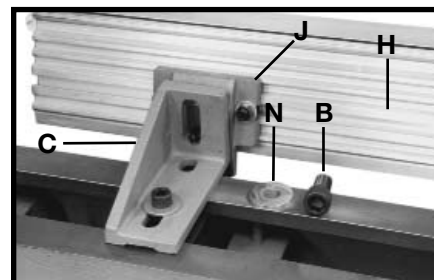
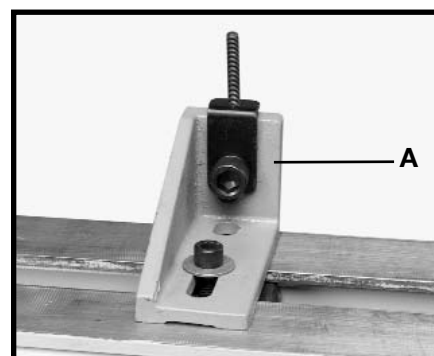

Fig. 25
Fig. 27B
5. While carefully supporting the duplicator rail (H) Fig. 25 at both ends, slide the mounting pad (J) along the duplicator rail until the tapped hole in mounting pad (J) lines up with slot in mounting bracket (C). Fasten with M16 x 35mm hex socket head screw (M) and 16mm x 41mm flat washer (N). **NOTE:** For 46-715 or 46-745, use bracket (A) Fig. 27B with M8 x 55mm socket head set screw without washer.